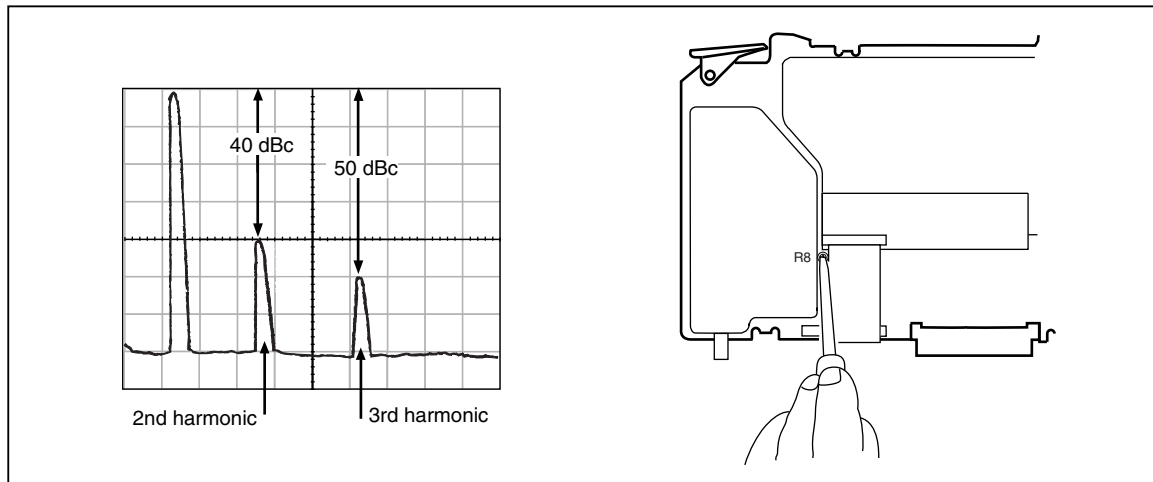

Figure 7-17. Levelled Sine Wave Harmonics Adjustment
3. Use the Peak Search function of the spectrum analyzer to find the reference signal. The spectrum analyzer will show the fundamental and second and third harmonics. The harmonics must be adjusted so that the second harmonic is at 40 dBc and the third harmonic is typically at 50 dBc as shown in Figure 7-17.